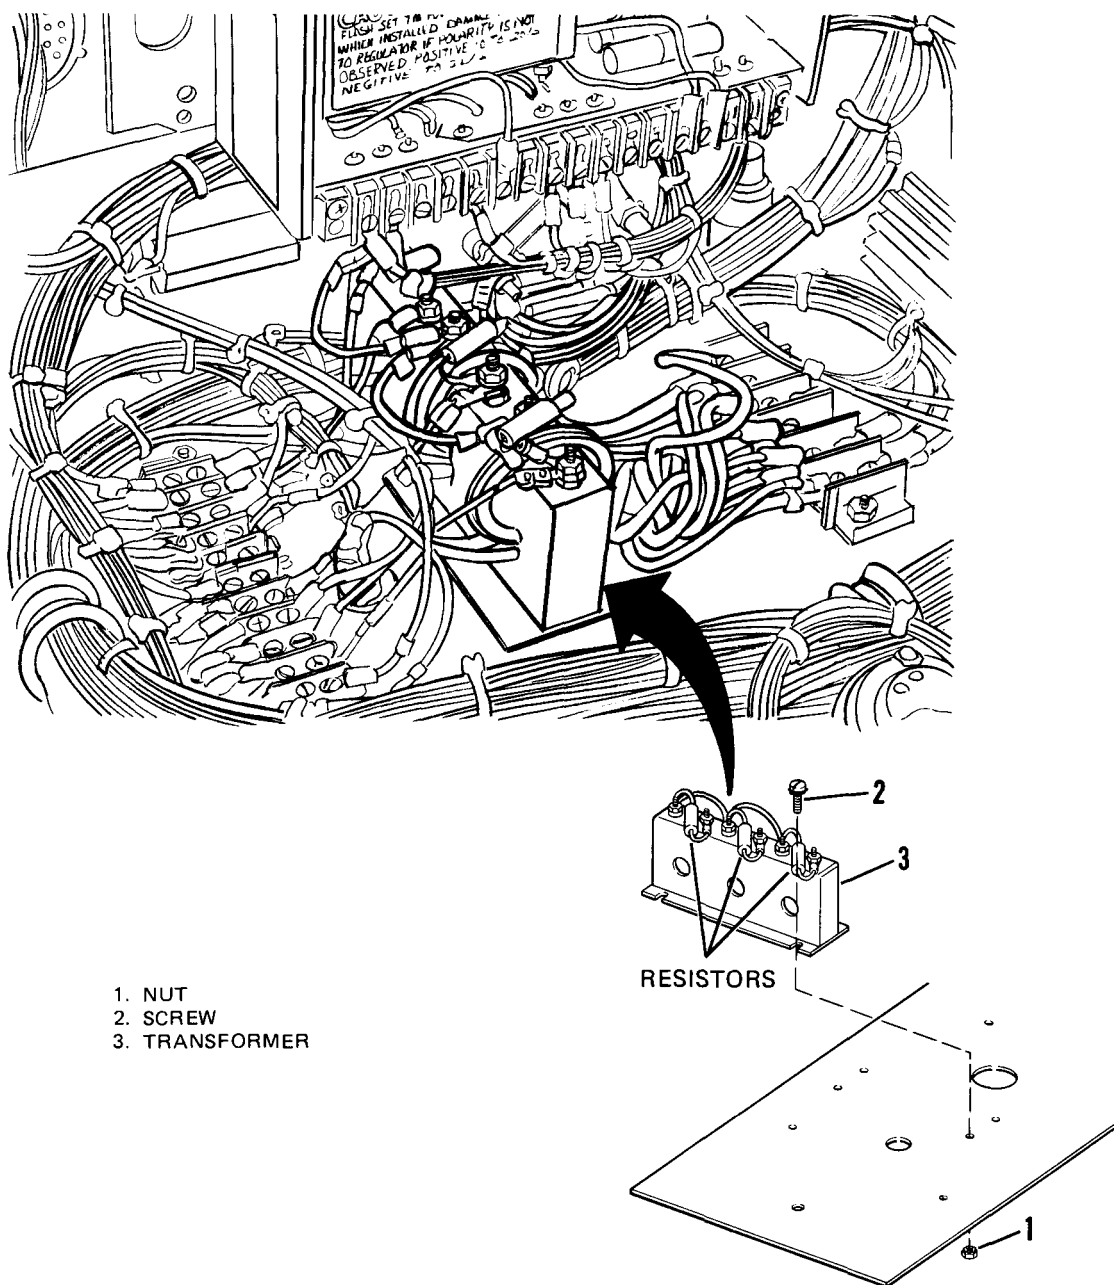

Figure 5-21. Current Transformer.
(1) Tag and disconnect wires and resistors from transformer (3, Figure 5-21) terminals.
- (1) Tag and disconnect wires and resistors from transformer (3, Figure 5-21) terminals.
- (2) Tag and disconnect leads that pass through current transformer from the circuit breaker.
- (3) Remove nuts (1), screws (2), and transformer (3).